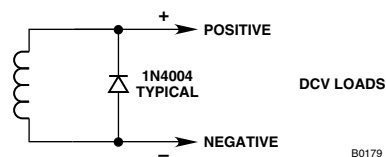

Figure 11—Transient Suppression for Inductive Loads
External relays, solenoids, motors, or other devices that can cause inductive transients should be transient suppressed. Place a diode across the coil for dc devices. See Figure 11.
- Figure 11 — Transient Suppression for Inductive Loads